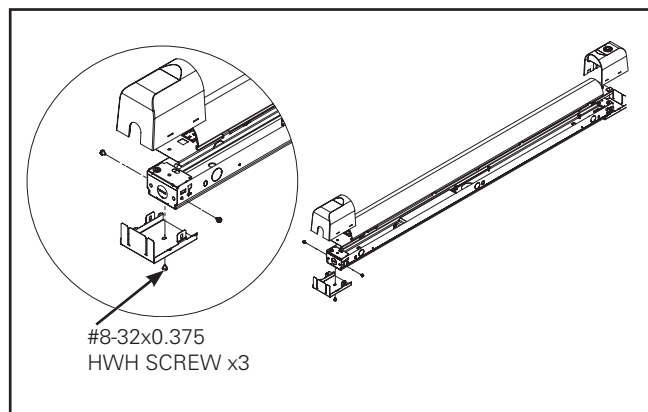

Figure 3.
1. Remove plastic endcaps and endcap bracket from one end of fixture and set it aside. These will be used later to finish the continuous row (figure 3).